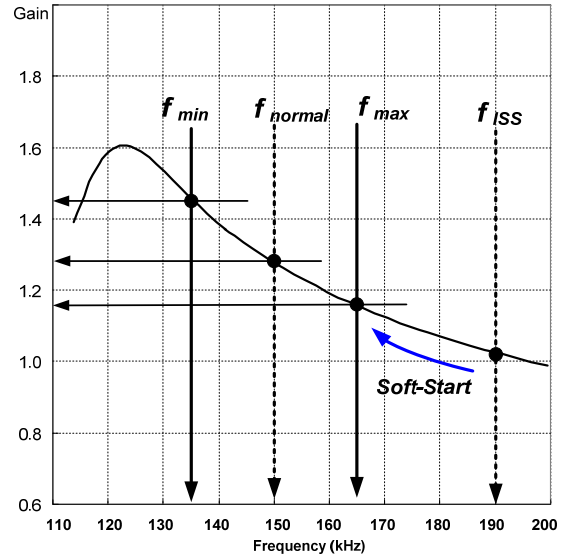
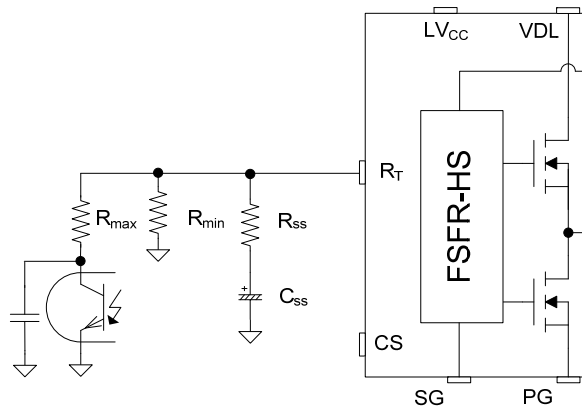

Figure 20. Resonant Converter Typical Gain Curve
Figure 21. Frequency Control Circuit
3. Frequency Setting: Figure 20 shows the typical voltage gain curve of a resonant converter, where the gain is inversely proportional to the switching frequency in the ZVS region. The output voltage can be regulated by modulating the switching frequency. Figure 21 shows the typical circuit configuration for the RT pin, where the opto-coupler transistor is connected to the RT pin to modulate the switching frequency. The switching frequency may be controlled from 20kHz to 500kHz.
The soft-start circuit is constructed by connecting R-C series network to the RT pin, as shown in Figure 21. Initially, the operating frequency is set by the parallel impedance of R_{ss} and R_{min} .